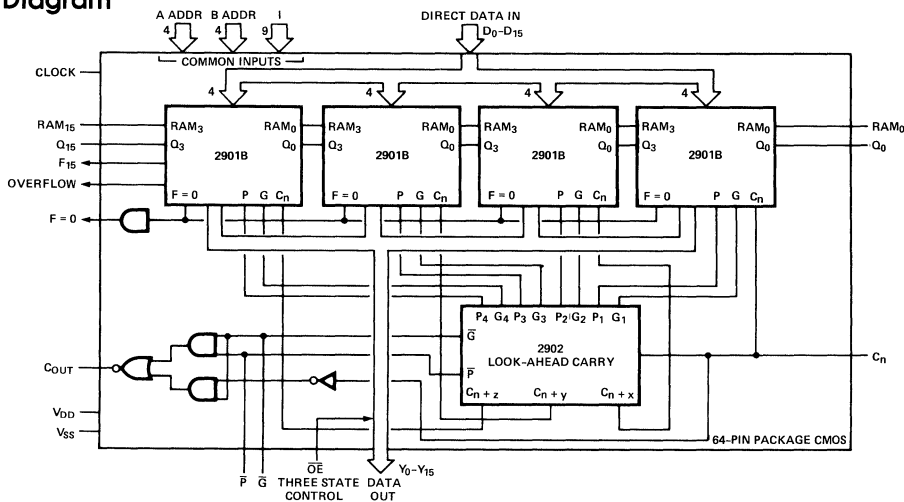
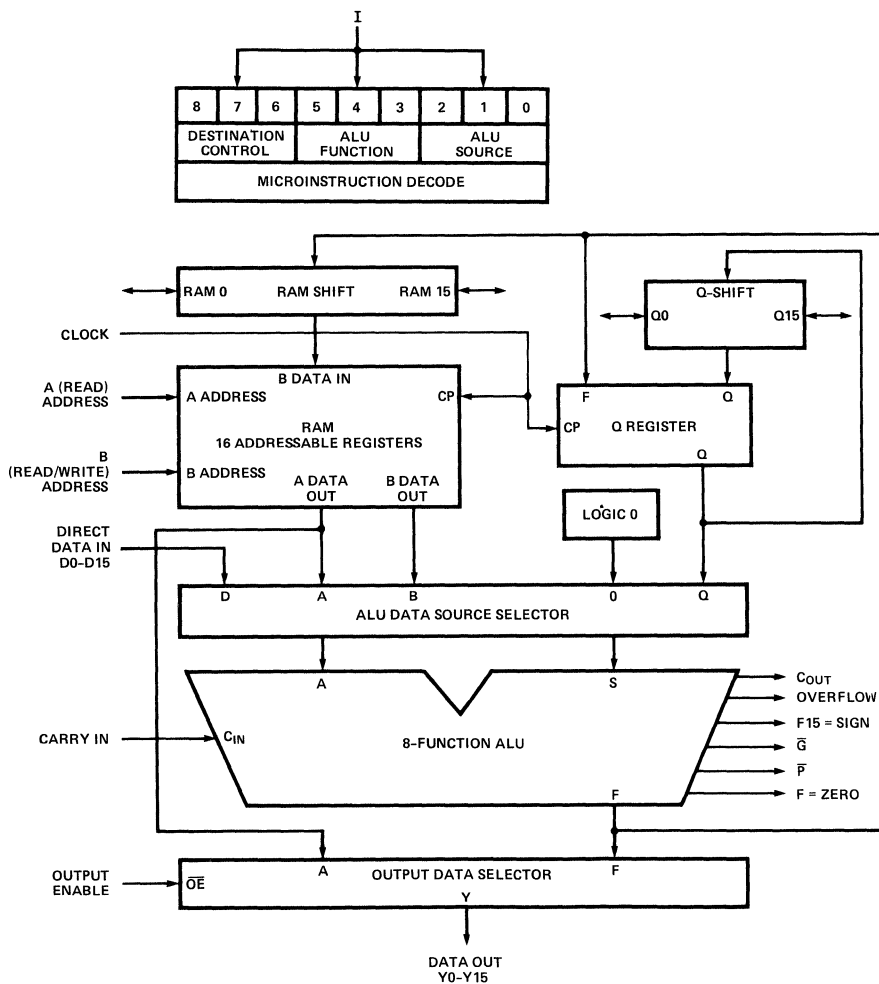

Figure 1. SY4x2901B General Block Diagram
Figure 2. Functional Block Diagram
The SY4x2901B, as shown in Figure 1, consists of four 4-bit 2901s, and one and one-quarter 2902s. As shown in Figure 2, the device consists of a 16-word by bit two-port RAM, and eight function ALU, and the associated shifting, decoding, and multiplexing circuitry. The 9-bit microinstruction word is organized into three groups of three bits each which select the ALU source operands, the ALU functions, and the ALU destination register.
The partial 2902 (Figure 1) is provided so as to reduce chip count when implementing either a 24-bit or 32-bit design. The three signals provided by the look-ahead carry circuitry are C_{OUT}, propagate (P), and generate (G). Moreover, C_{OUT} is the only carry signal needed when cascading with either a SY2x2901B^[1], or another SY4x2901B device (24-bit and 32-bit configurations respectively) — thus eliminating the need for an additional look-ahead carry device. For system configurations greater than 32-bits, the carry propagate and generate signals can be used. This on-board look-ahead carry capability provides the user with a truly economical and versatile alternative for design.